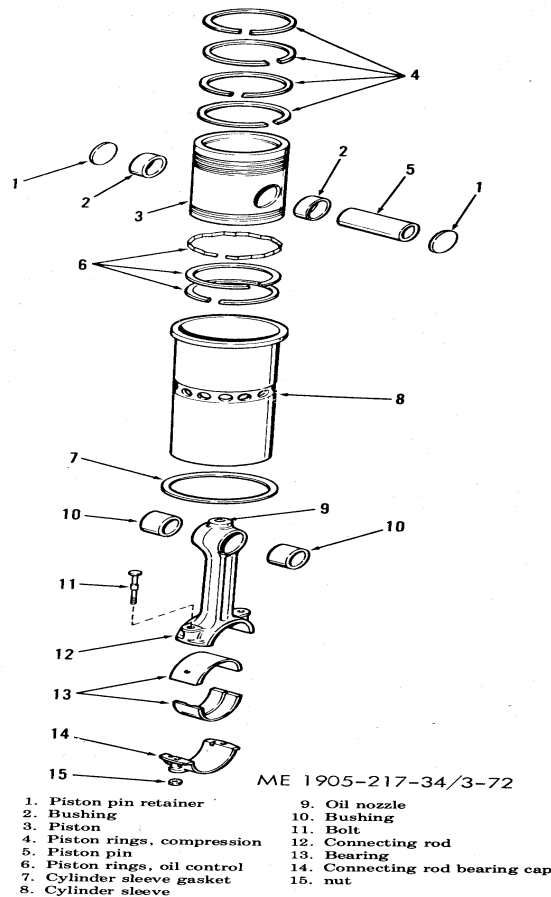

Figure 3-72. Piston, connecting rod and cylinder sleeve, removal, disassembly, reassembly, and installation
- (6) Remove nut (15), bolt (11), and the bearing cap (14, fig. 3-72) and lower bearing shell from the connecting rod. Then, push the piston and rod assembly out through the top of the cylinder block. The piston cannot be removed from the bottom of the cylinder block.
(1) Secure the connecting rod (12, fig. 3-72) in a vise equipped with soft jaws and remove the piston rings (4) with tool J 8128.
(2) Punch a hole through the center of one of the piston pin retainers (1) with a narrow chisel or punch and pry the retainer from the piston. Use care to prevent damage to the piston and bushings.
(3) Withdraw the piston pin (5) and free the piston (3) from the connecting rod (12).
(4) Drive the remaining piston pin retainer out from the inside with a brass rod or other suitable tool.
(5) The piston pin bushings may be removed with tool set 1513-02 by placing the piston in holding fixture J-1513-1. Make sure bushing bore is in alignment with the hole in the base of the fixture.
(6) Drive the bushings (2) out of the piston with remover J 1513-3 and handle J 1513-2.
(7) Clamp the upper end of the connecting rod in holder J 7632 so the bore in the bushings is in line with the hole in the base of the holder.
(8) Set bushing remover J 1513-3 in connecting rod bushing, insert handle J 1513-2 in remover and drive bushings (10) from the rod.
(9) If necessary to replace the spray nozzle, remove old nozzle as follows:
(8) *Assemble Rings on Piston.* Refer to figure 3-72 for the locations of the rings on the piston.